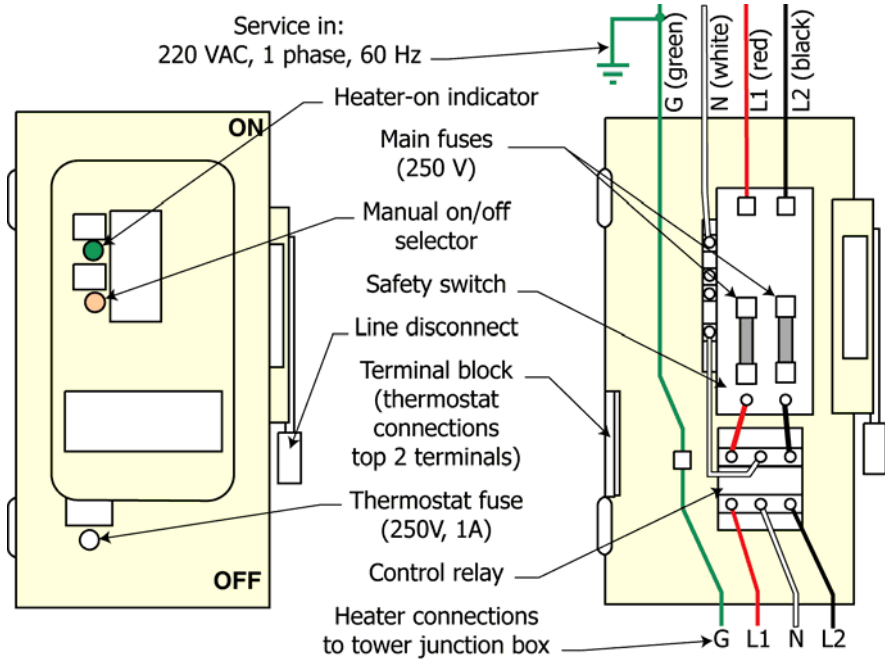

Figure 13. Shively de-icer control box layout
- De-icer control box layout: Figure 13 on page 23.
- e. Furnish a main control box as shown schematically in Figure 13 on page 23.